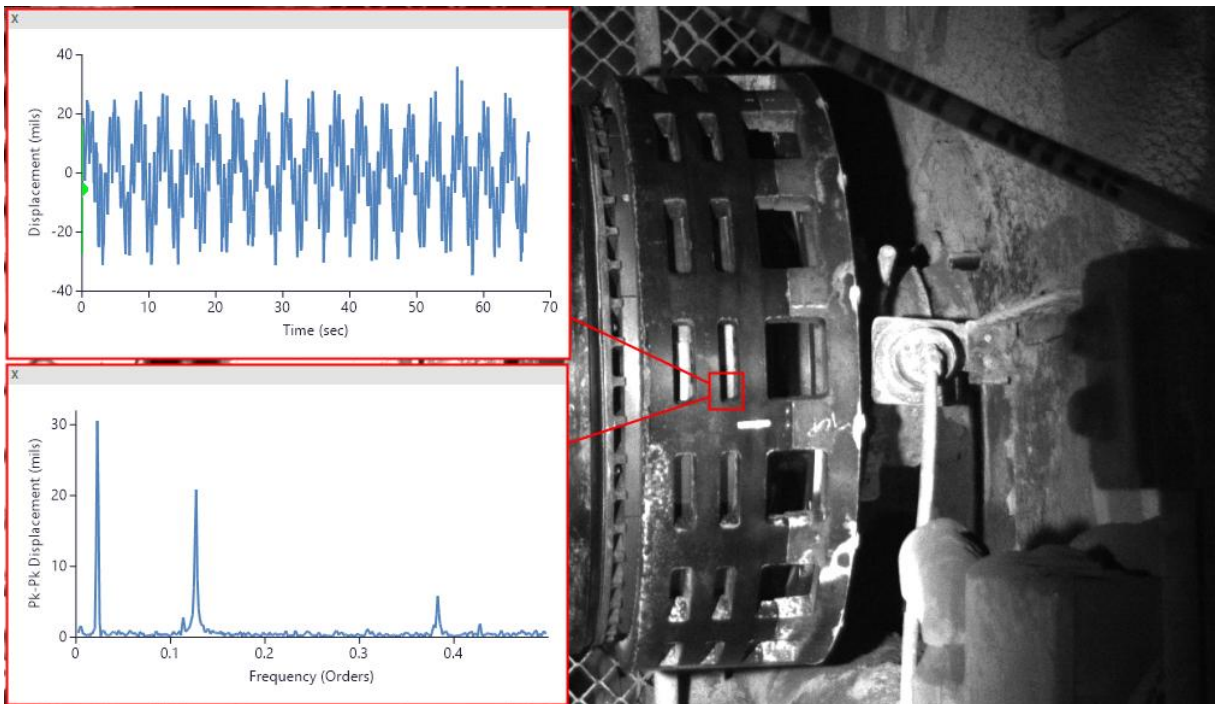

Fig. 7. Mill coupling displacement graph.
**Tach Sync** on a coupling using a high-speed camera with an external tachometer, and amplifying motion allows engineers and technicians to capture the full motion of a mill's coupling, visualizing misalignment or looseness. By analyzing the time waveform, orbit plots, and spectrum, it's possible to determine if the motion is due to misalignment, structural resonance, or other forcing functions. Illustrated in Fig. 7.